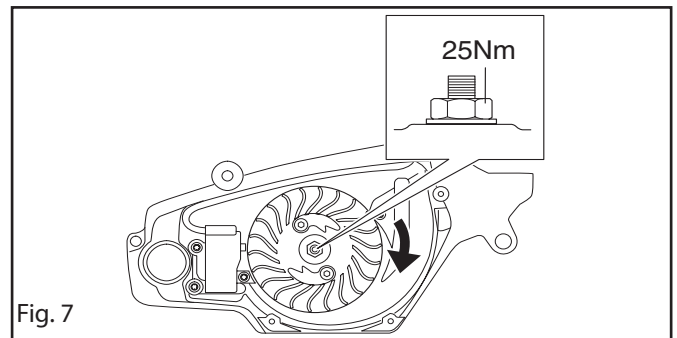

Fig. 7
2. Fit the flywheel washer and nut. See figure 7.